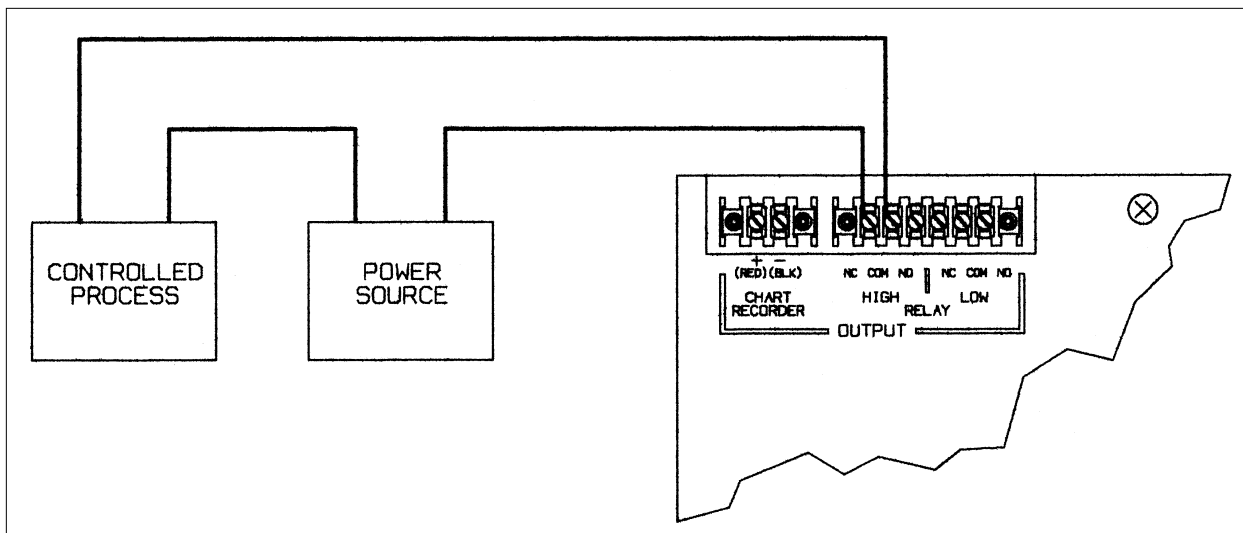

Figure 8 - Sample Wiring Schematic for Alarm Relay Contacts
- 1 Remove filtration access panel and cell cover to expose galvanic cell holder (see Figure 8).